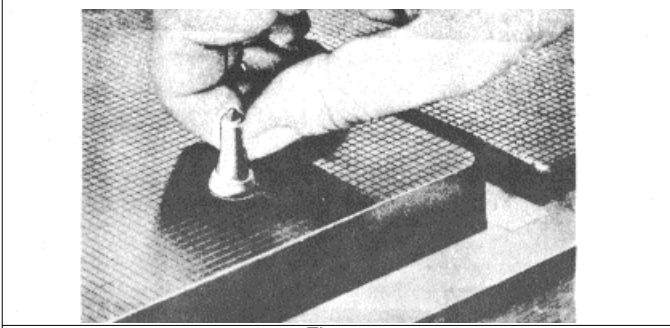

Fig. 33
- (1) Clean the lapping blocks (J 22090) with compressed air. Do not use a cloth or any other material for this purpose.
- (2) Spread a good quality 600 grit dry lapping powder on one of the lapping blocks.
- (3) Place the part to be lapped flat on the block as shown in Fig. 33 and, using a figure eight motion, move it back and forth across the block. Do not press on the part but use just enough pressure to keep the part flat on the block. It is important that the part be kept flat on the block at all times.
- (4) After each four or five passes, clean the lapping powder from the part by drawing it across a clean piece of tissue placed on a flat surface and inspect the part. Do not lap excessively (refer to Table 1).